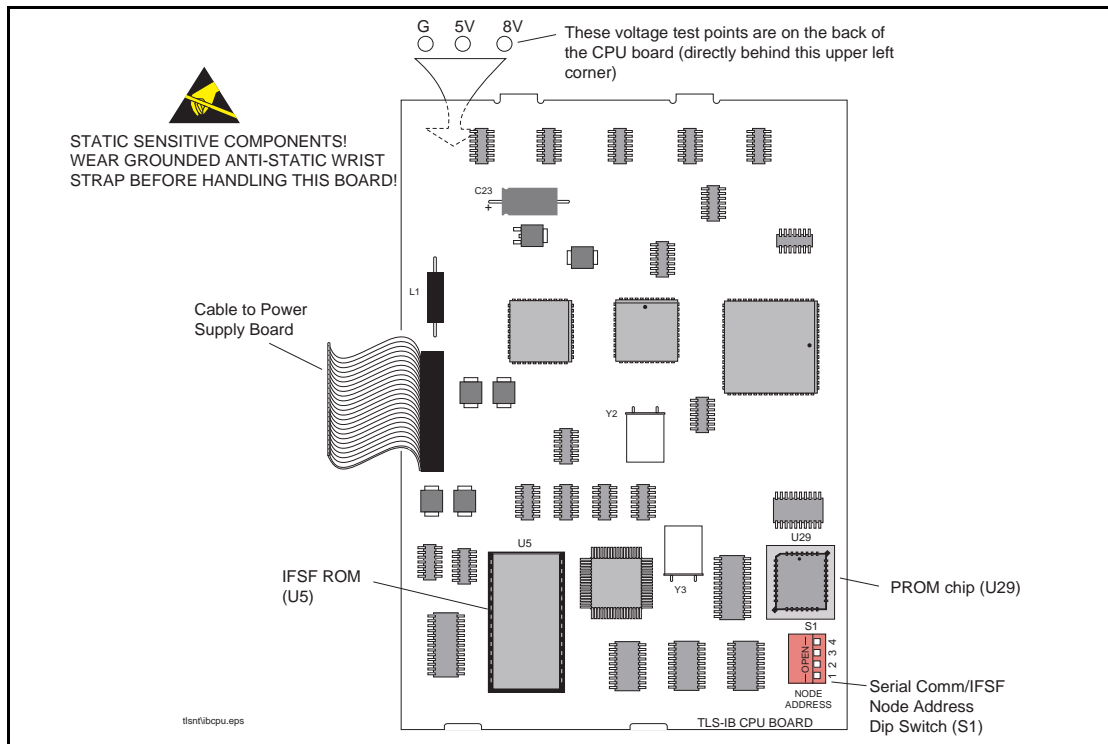

Figure 29. TLS-IB CPU board
3. Set the IFSF Node Address DIP switches on the CPU board (S1 in Figure 29 on page 34) to the desired Node Address using the table below (U = switch open [up], D= set switch to closed position [down]). For example, to enter a IFSF node address of 06, set switches 2 and 4 up, and switches 1 and 3 down.
The CPU board must be replaced if the TLS-IB fails to communicate. Check the voltage between the GND and 5V test points [Figure 29] on the back of the CPU board. This voltage should be between 4.75 - 5.25 Vdc; if not, replace CPU board as follows.
6. Locate the PROM chip on the board [Figure 29].
- The voltage between the GND and 8V test points (Figure 29 on page 34) on the back of the CPU board is less than 7 Vdc.